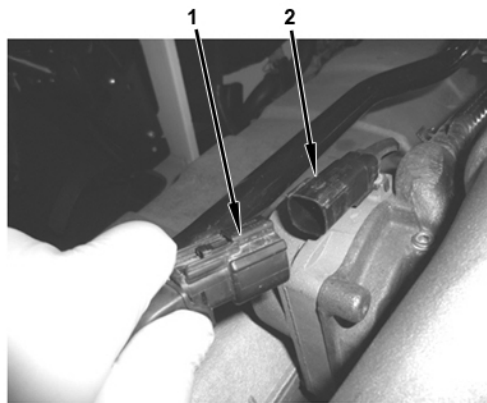

Figure 2 EGR Valve Engine Harness Connector
5. Disconnect EGR valve engine harness connector (2) (Figure 2).